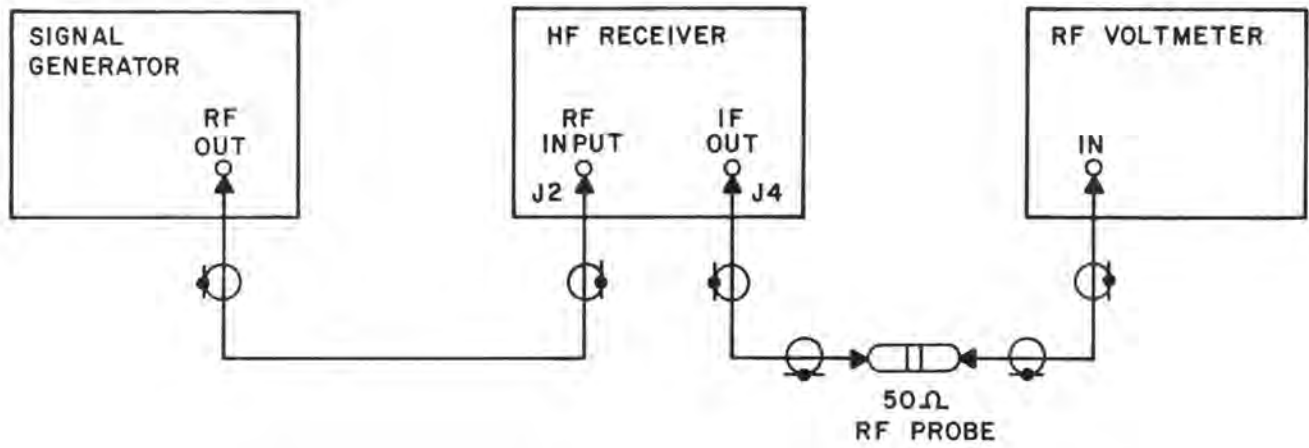

Figure 4-6. Input Converter Alignment
1. Loosen the screws holding the Input Converter module to the chassis. Pull the module out and remove its cover. Connect Test Equipment as shown in Figure 4-6.